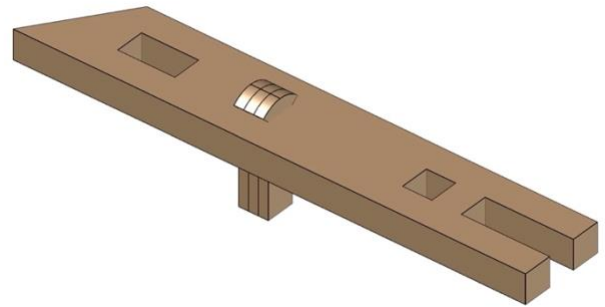

Fig. 34
- Fig. 34 shows the completed process.